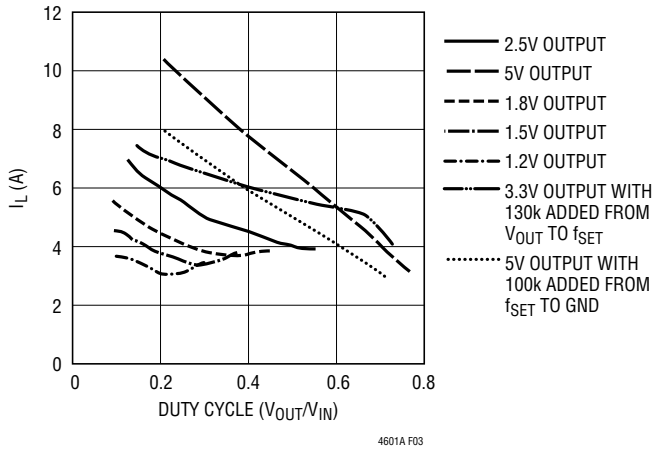

Figure 3. Inductor Ripple Current vs Duty Cycle
2.5V multiphase design can be read from the Inductor Ripple Current vs Duty Cycle graph (Figure 3). The large ripple current at low duty cycle and high output voltage can be reduced by adding an external resistor from  $f_{SET}$  to ground which increases the frequency. If the duty cycle is  $DC = 2.5V/12V = 0.21$ , the inductor ripple current for 2.5V output at 21% duty cycle is ~6A in Figure 3.